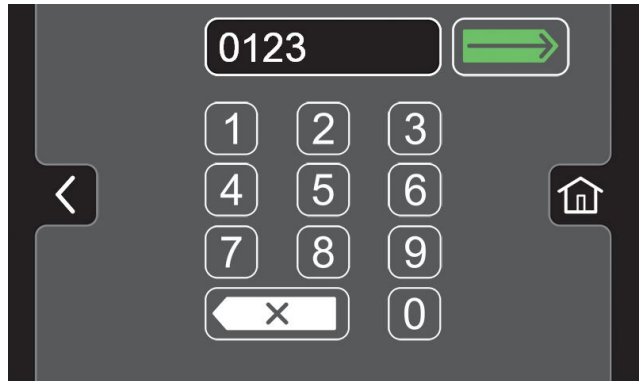

FIG. 155
5. Assign a login code for the new user profile then press the green enter button (Figure 155). The new login code can be any combination of numbers ranging from 3 to 8 digits in length.